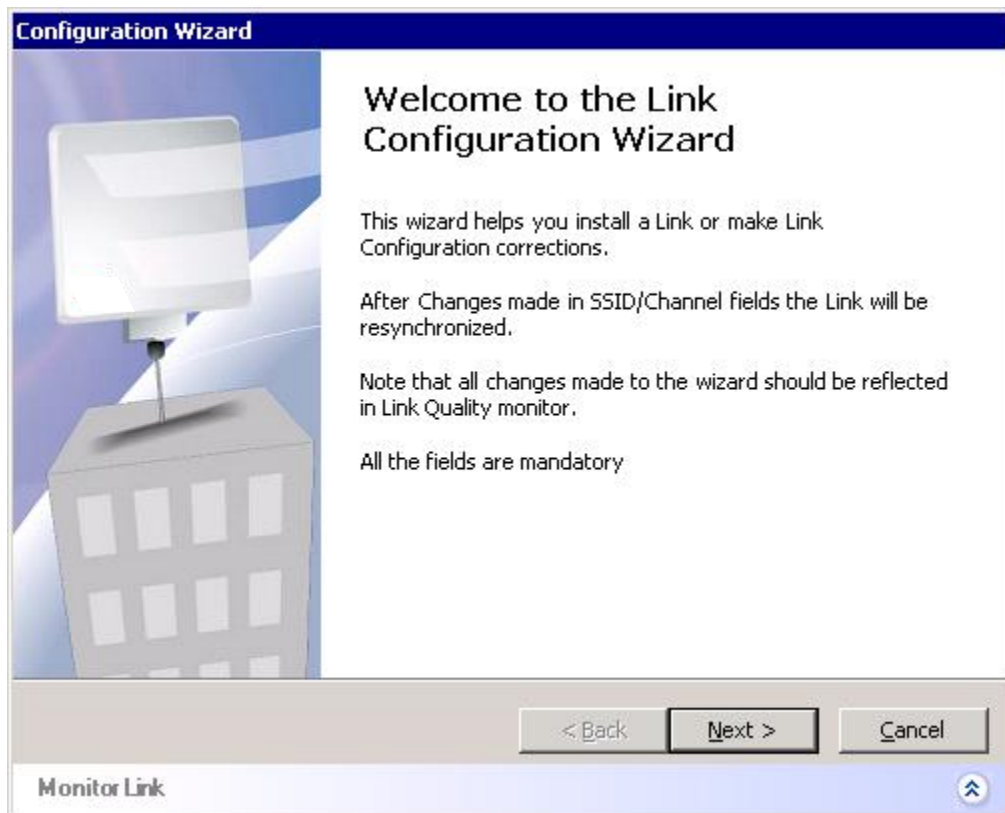

Figure 4-3. Configure Link Dialog Box
The Configure Link wizard appears (see Figure 4-3). See Chapter 3 for configuration details.
1. From the Configuration menu (see Figure 4-3), click Backup.